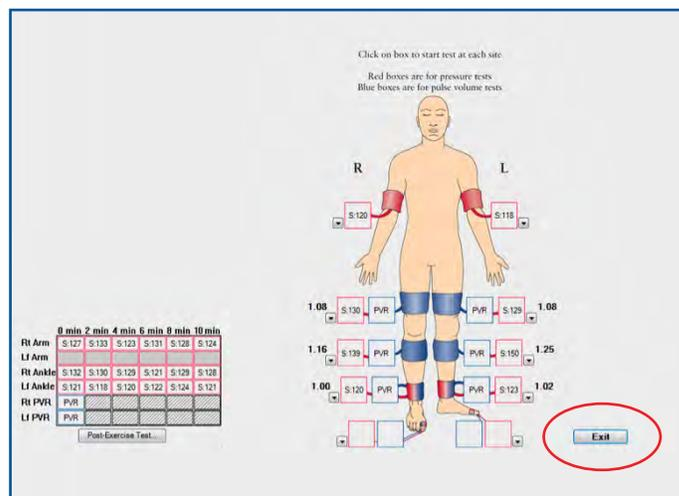

FIGURE 1.46 - Test Summary Screen - "Exit" Button
3. Click “Update” and then “Send Signed Tests” (Figure 1.46).